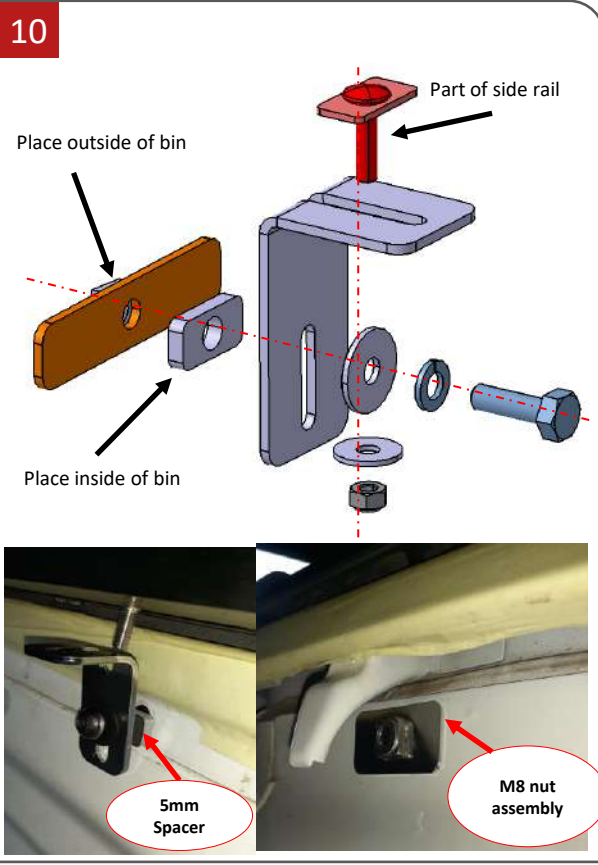

Figure 10
- The 5mm spacer) must be placed between the mounting bracket and the vehicle bin in line with the short slot and mounting hole as shown in **Figure 10**.